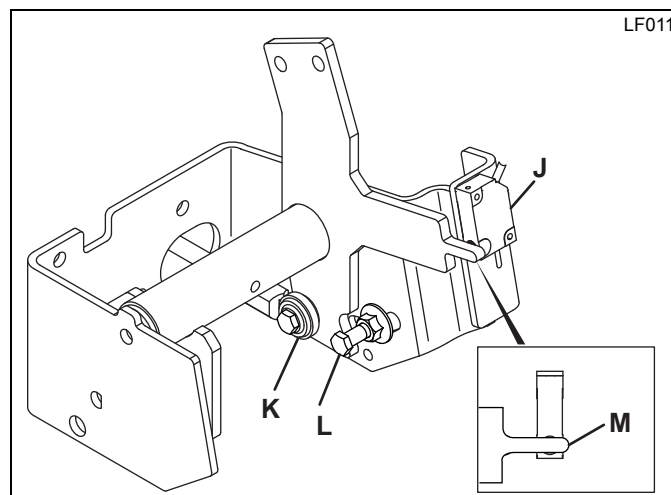

Figure 8K
4. Engage parking brake and set mow switch to neutral. Make sure neutral switch at traction pedal is closed. (Figure 8K - **M**). Distance between the switch and metal pointer "M" must be between 1/16 in. and 1/8 in. (0.15 and 0.3 cm).
6. Connect traction linkage. When connecting linkage at traction pedal, make sure pointer on traction pedal bracket is centered over neutral switch (**M** - Figure 8K).